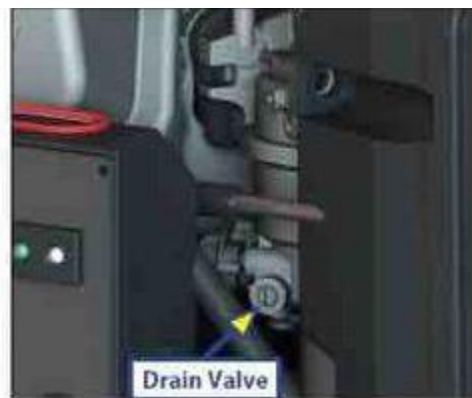

Fig. 12
10. If there is any gasoline left in the carburetor, drain the carburetor bowl (Fig. 12) to prevent deposits of gum from clogging the small passages in the carburetor as the gasoline in the carburetor evaporates during storage. Drain the carburetor bowl as follows: